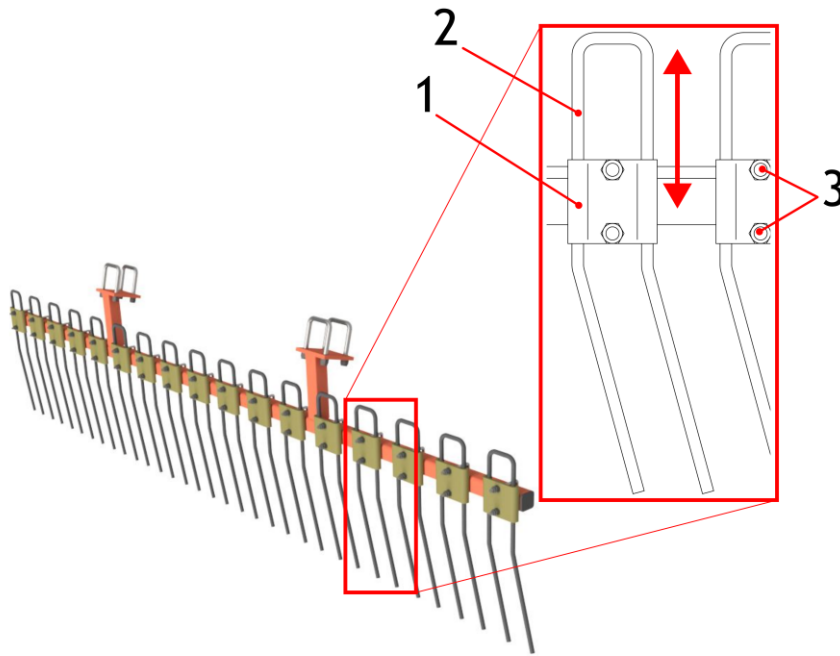

Figure 21: Adjustment of the position of the spring screen claws (1 – mounting plate, 2 – spring claw, 3 – fastening nuts)
1. Loosen the nuts (Fig. 21, item 3) and the plate (Fig. 21, item 1),
2. Extend upwards or retract downwards the claw (Fig. 21, item 2),